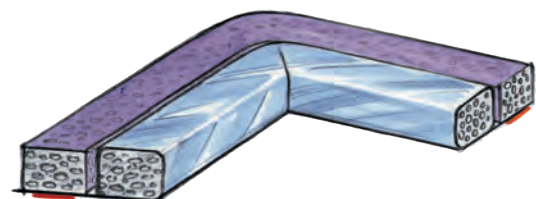

Figure 26.2: A EMI gasket combined with an environmental seal.
- It is and will remain free of corrosion (Fig. 26.2)